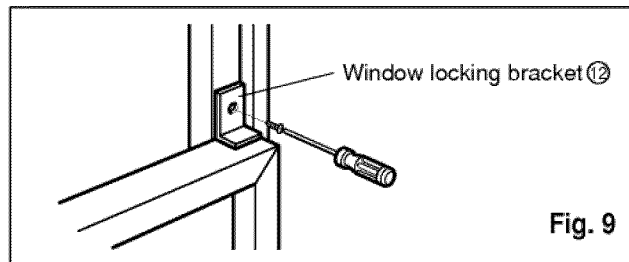

Fig. 9
12. Attach the window locking bracket ⑫ with a type C screw. (Fig. 9)
12. Attach the window locking bracket ⑬ with a type C screw. (See Fig. 9)